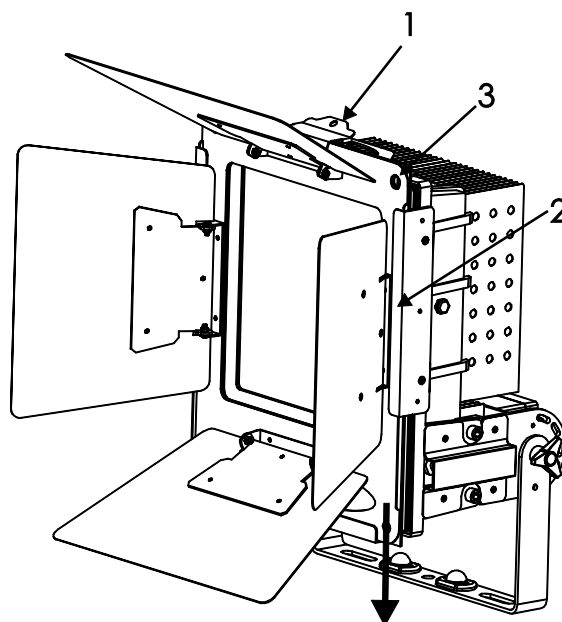

Figure 6. MBL40 Barndoors
1. See Figure 6. Pull back the spring clip (1) on the top of the fixture and slide the barndoors into the channel (2) provided on the front of the fixture. Release the spring clip and ensure that it is holding the top of the barndoors in place.
2. Install a safety bond between one of the holes (3) in the top corner of the barndoors assembly and the main fixture to prevent the barndoors falling if they become detached from the main fixture.